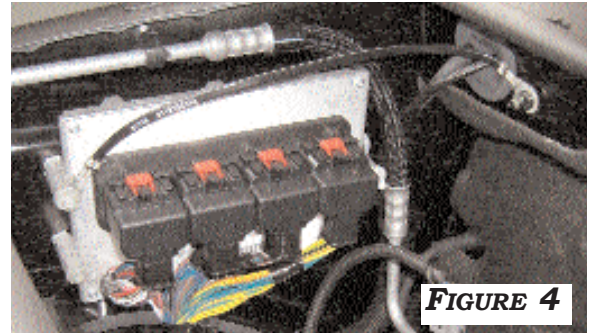
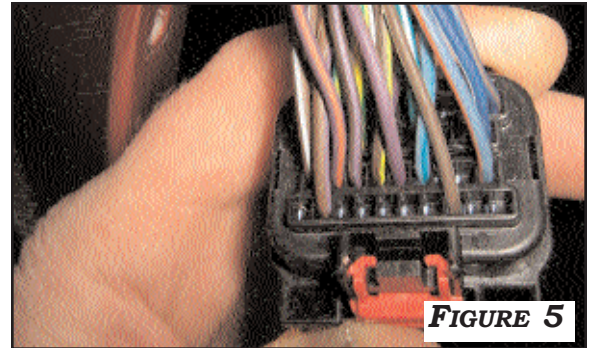

FIGURE 4
FIGURE 5
2. **DODGE CARAVAN, JOURNEY, AND TOWN & COUNTRY** APPLICATIONS: LOCATE FOUR CONNECTOR ECM AT DRIVER SIDE FENDER WELL BEHIND SPLASH GUARD AT FRONT WHEEL. **DODGE NITRO AND JEEP LIBERTY** APPLICATIONS: LOCATE ECM AT PASSENGER SIDE FENDER WELL. GO TO THIRD CONNECTOR (WHITE ON BOTTOM SIDE). **FIGURE 4.** REMOVE TOP OF CONNECTOR. LOCATE **PIN 15 VIOLET/BROWN WIRE, PIN 18 VIOLET/ORANGE WIRE, AND PIN 34 VIOLET WIRE. FIGURE 5.** IF WIRES ARE PRESENT, THEN VEHICLE IS PREWIRED. SKIP TO CONTROL SWITCH INSTALLATION. IF WIRES ARE NOT IN THE POSITIONS, USE **CLOCKSPRING/ECM HARNESS** SUPPLIED IN KIT.